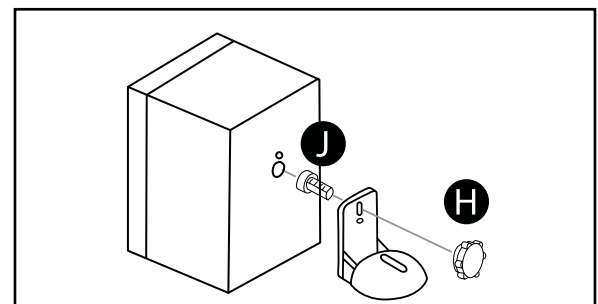

Figure 3 - Keyhole fixing
B. Attaching to a Speaker with a Keyhole (see Figure 3)
2. Firstly take the Keyhole Bolt (J) and put it through the hole in the Speaker plate, then loosely tighten with Keyhole Fixing Knob (H).